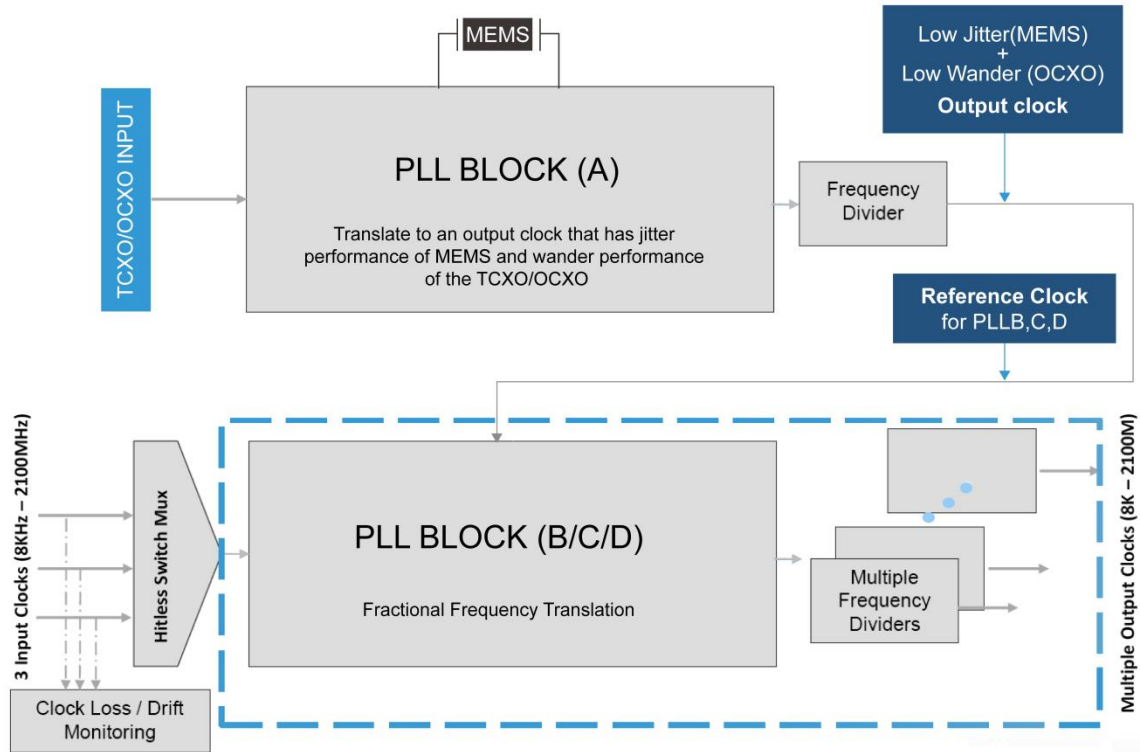

Figure 31. SiT95145 Low Wander Mode implementation diagram
A Low Wander Mode (LWM) is the mode that combines the best jitter from TCXO/OCXO MEMS resonator clocks. This dual loop PLL configuration leverages the lower TCXO/OCXO close-in phase noise (PN) with the lower further out PN of the embedded MEMS resonator. The LWM implementation is shown in Figure 31, in which PLLA generates a low wander reference for the rest of the PLLs. Any or all PLLs B, C, D can operate in LWM. Wander on the input clocks to any of the 3 PLLs is attenuated with PLL bandwidth (BW) set to less than 10 Hz.